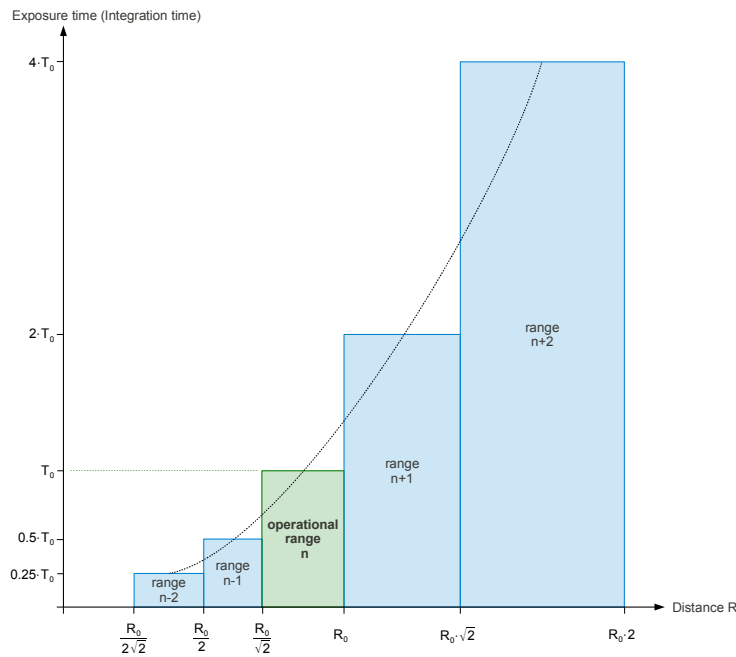

Figure 15: Example of operating ranges as a function of distance and exposure time based on doubling the light power to the sensor per range
- to adapt the integration time correspondingly to the necessary sensitivity as demonstrated in Figure 15.
The easiest way is to adapt the integration time to the current illumination situation (e.g. in Figure 15). With the command formats, which allow adjusting of the integration time, it is easy to do. It is simple to change the integration time on the fly: a capture is initiated by a command sent to the chip.